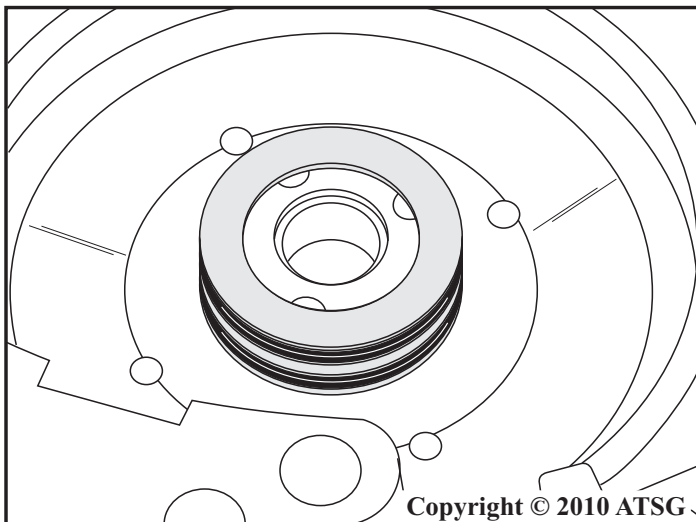

Figure 90
3. Inspect the steel sleeve in the rear of case very closely, as shown in Figure 90.
4. Install two new sealing rings into the grooves in the steel sleeve at rear of case (See Figure 90) and lube with small amount of Trans-Jel®.